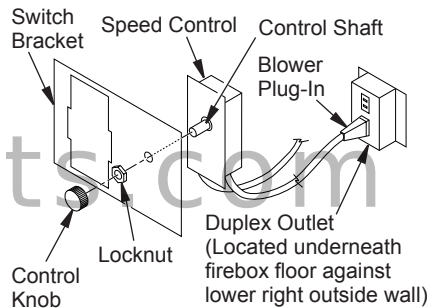

Figure 37 - Attaching Speed Control to Firebox (Millivolt Models)
5. Mount speed control box by placing plastic control shaft through opening in switch bracket (see Figure 37) or ignition module bracket (see Figure 38).
5. Mount speed control box by placing plastic control shaft through opening in switch bracket (see Figure 37, page 23) or ignition module bracket (see Figure 38, page 23).
6. While supporting speed control, secure supporting speed control shaft with lock nut by pushing and turning lock nut with pliers clockwise until it is tight against mounting plate. Place control knob provided on shaft (see Figure 37 or 38, page 23).